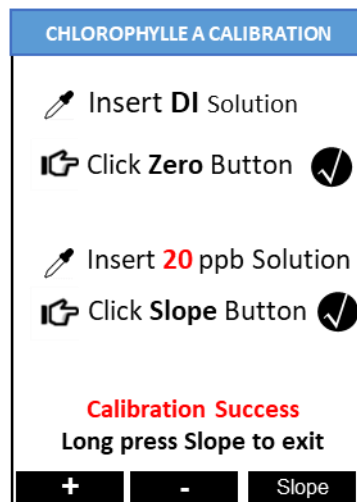

Figure 8
- 5) If calibration is successful, the screen will update with a second checkmark for the Slope setting as in Figure 8 and the message Calibration Succeed will appear.